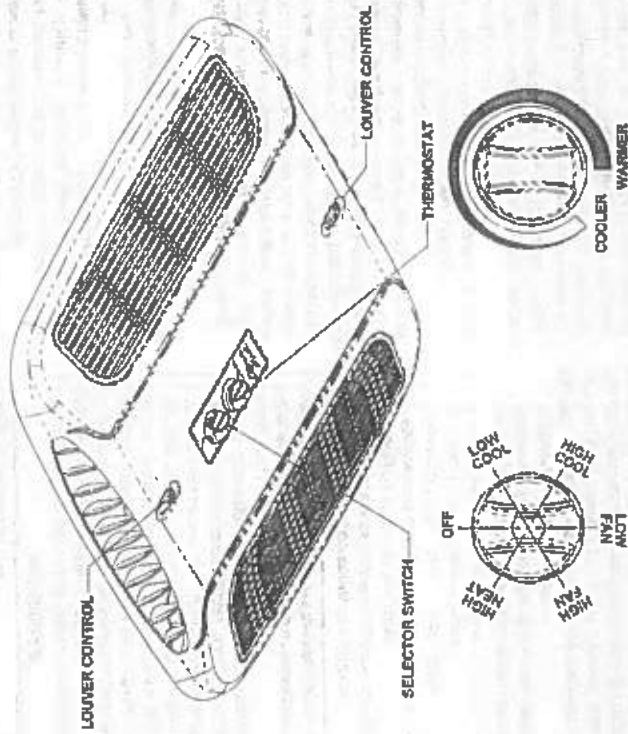

FIGURE 1
A. The Selector Switch - The selector switch determines which mode of operation the heat pump will be in. By rotating the selector switch, the operator can obtain any system function desired. System functions vary depending upon options of both the roof top unit and ceiling assembly. Figure 1 shows selector switch location and lists all available functions by model. The "Operation" section explains the operational characteristics of each mode of operation.
B. The Thermostat (temperature control) - The thermostat regulates the "ON" and "OFF" temperature setting at which the compressor will operate. See Figure 1.
1. For Cooling (Refer to Figure 1, page 9).